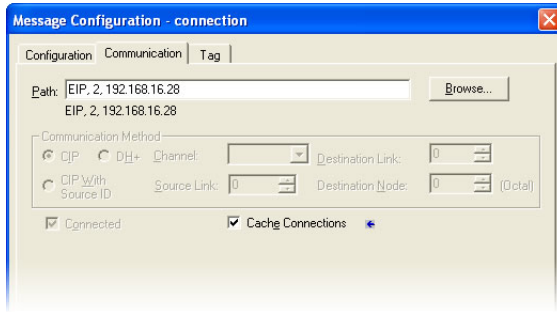

Figure 106: Setting the Communication Path
- d) "Communication" tab settings (refer to Figure 106):